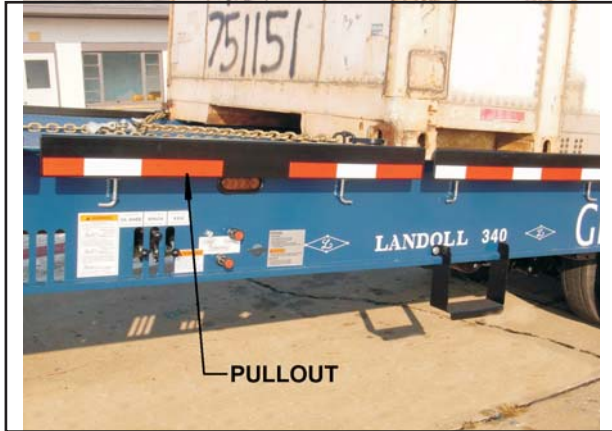

Figure 3-3 Pullout Location
- 3-11.14 The pullouts are used to guide the container onto the trailer. Position in for 96" wide container and use the outer position for 102" wide container (**See Figure 3-3**).